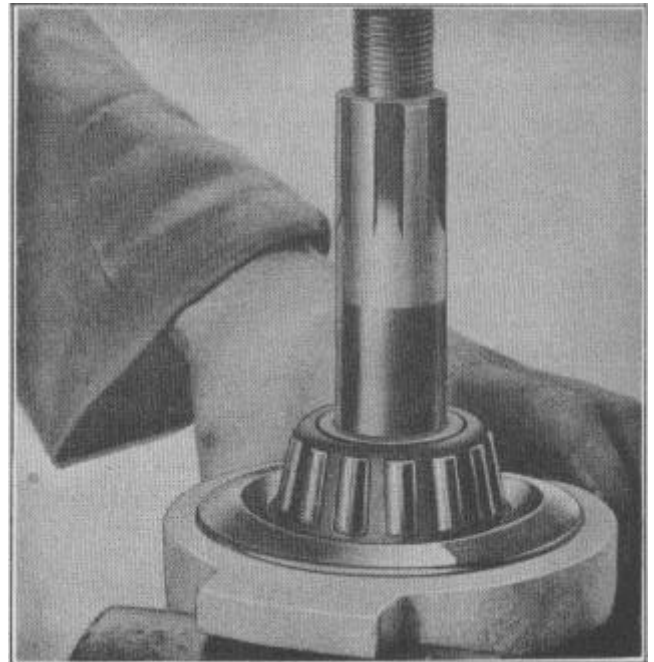

FIGURE 20
4. Remove rear pinion shaft bearing, using bearing remover 7-2640 as shown in Figure 20.